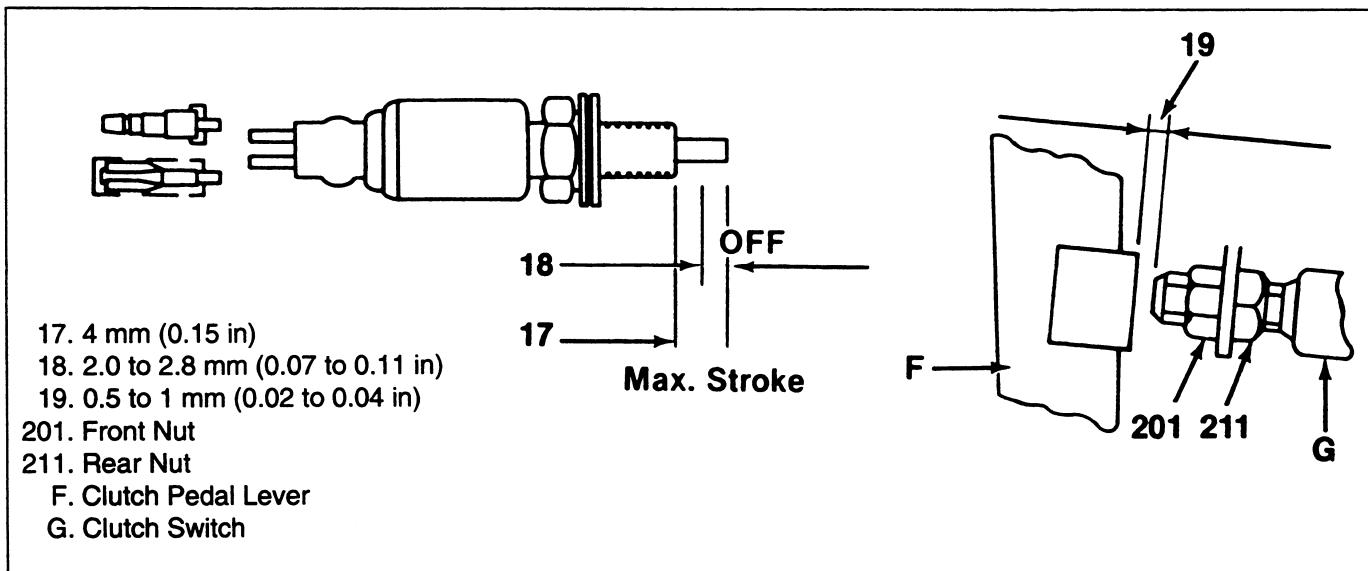

Figure 20. Servicing Clutch Switch
3. Front switch nut (201) (figure 20).
1. Rear switch nut (211) on clutch switch (figure 20).
3. Front switch nut (201). Do not tighten.
- Adjust the switch in its bracket until 0.5 to 1 mm (0.02 to 0.04 in) clearance exists between the fully depressed switch plunger and the contact area on the clutch lever (dimension 19) (figure 20).